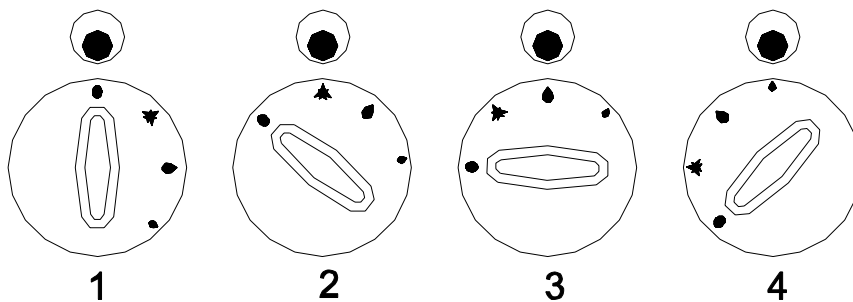

Fig. 3
Push the knob and turn it up to position marked with the spark (item 2 in Fig. 3); hold the knob down and at the same time push the ignition button (item 3 in Fig. 1).
To light the main burner, exercise a slight pressure and turn the knob to the position corresponding to the required temperature (from item 3 to item 4 in Fig. 3).
To extinguish the main burner, turn the knob towards the right to the position marked with the spark (item 2 in Fig. 3); only pilot flame remains on. Exercise a slight pressure and turn the knob to the position "OFF" (item 1 in Fig. 3) to extinguish the pilot flame too.